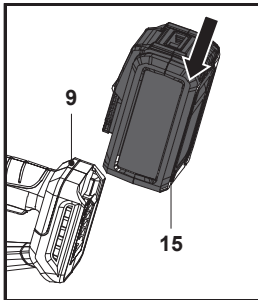

Fig. 2
1. Align the battery pack (15) with the sliding slots of the battery docking port (9) and slide the battery pack (15) in to attach it. Ensure it clicks in place (Fig. 2).